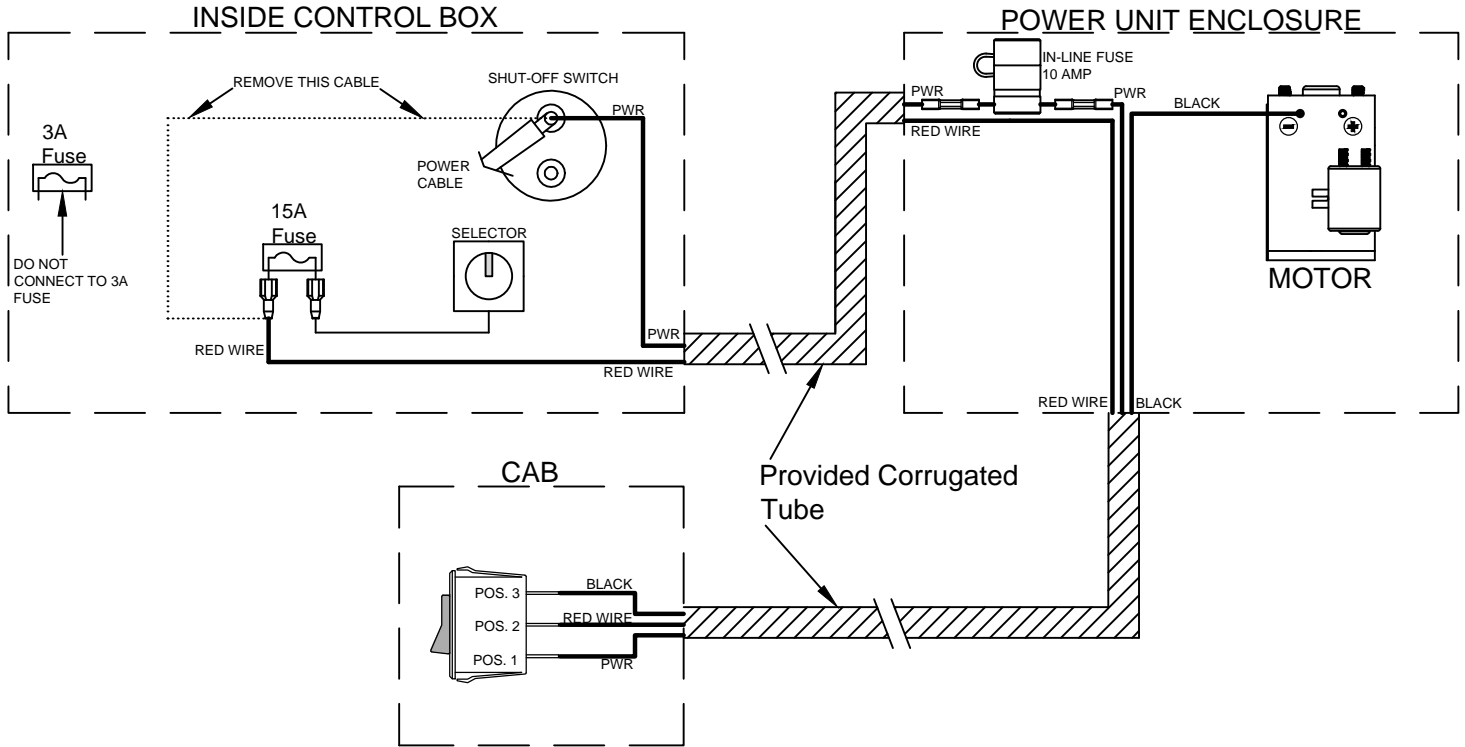

Figure 3: Electrical Connections Diagram for F3CL and F3RE series.
6. Connect the AWG #16 cut-off switch wires according to the diagrams and the liftgate series (Figure 3 and 4). Use the provided corrugated tube to protect the wires while routing them.